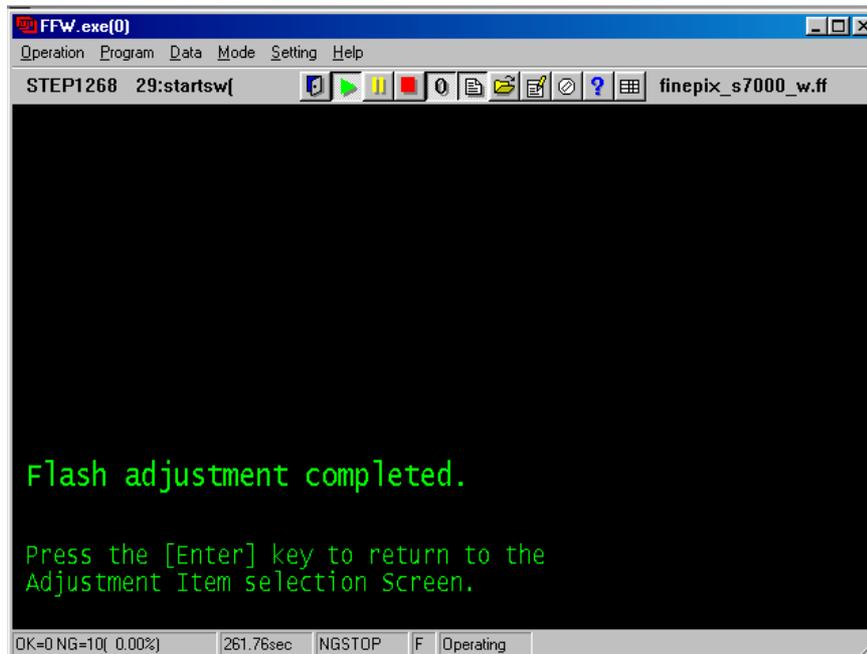

Fig.29
--->The [Flash Adjustment Complete Screen (Fig.29)] appears.